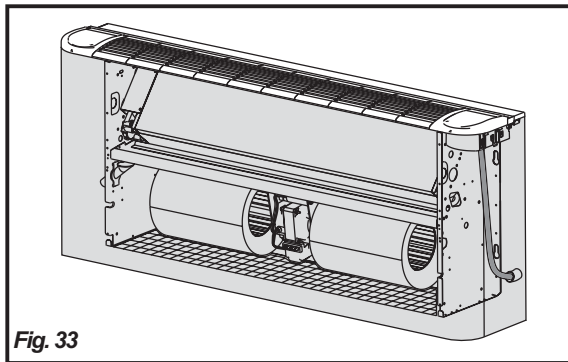

Fig. 33
**The cables should be sufficiently long so that they are not permanently taut or create throttling or pressure on metal parts** (see fig. 33).